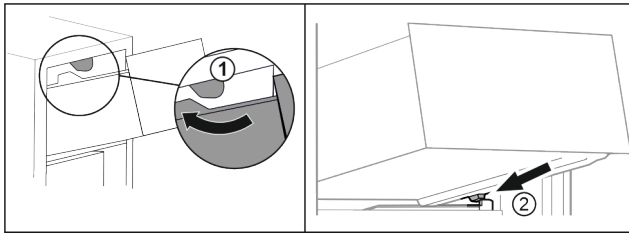

Fig. 56
- ▶ Guide drawer around the upper stoppers. Fig. 56 (1)
- ▶ Place drawer at an angle behind the lower stoppers onto moulded rib. Fig. 56 (2)